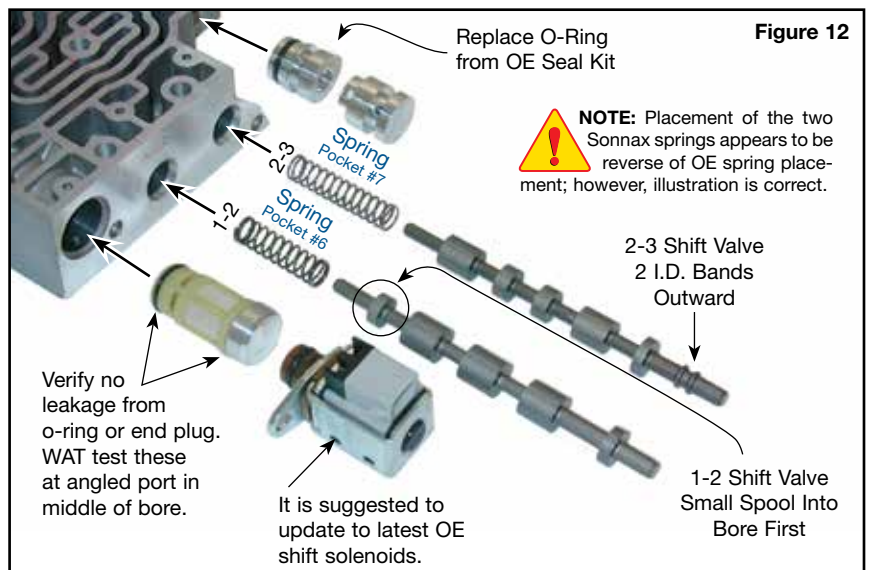

Figure 12
- a. Remove OE 1-2 shift valve, set aside for reuse (Figure 12).
- Remove OE 2-3 shift valve, set aside for reuse (Figure 12).